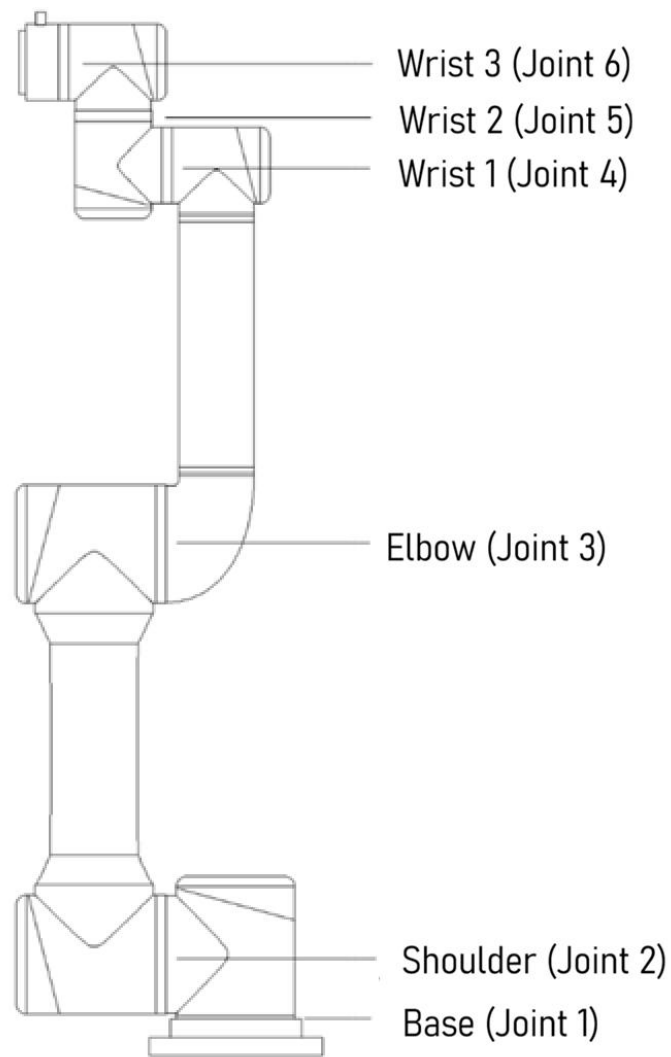

Figure 2-2 Robot Joints
The AUBO-iS (FT) series robot arm mimics the human arm and has six rotating joints, each representing one degree of freedom. As shown in Figure 2-2, the robot arm joints include the pedestal (Joint 1), shoulder (Joint 2), elbow (Joint 3), wrist 1 (Joint 4), wrist 2 (Joint 5), and wrist 3 (Joint 6). The pedestal is used to connect the robot arm body to the base, and the tool end is used to connect the robot arm to the tool. The shoulder and elbow, as well as the elbow and wrist, are connected by arm tubes. Through the teach pendant software interface or drag teaching, users can control each joint to rotate, allowing the robot's end tool to move to different poses.